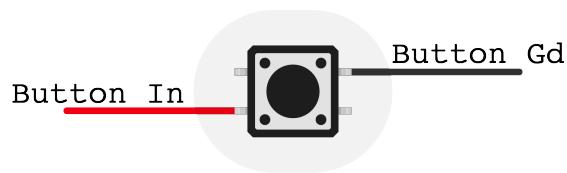
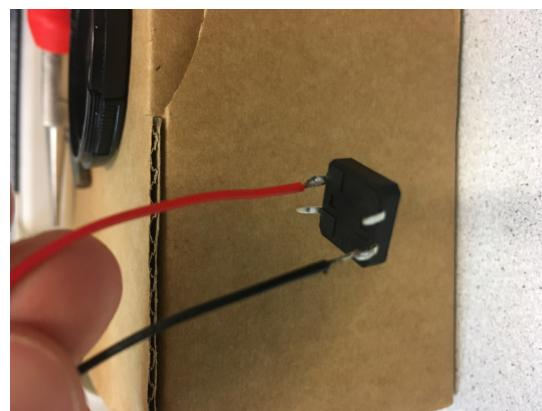

Figure 3.4: The way the buttons should be soldered
Figure 3.5: Buttons soldered
Step 1 Solder a red wire and a black wire to all 7 buttons, connecting them diagonally opposite as shown in figure 3.5 and Figure 3.4.